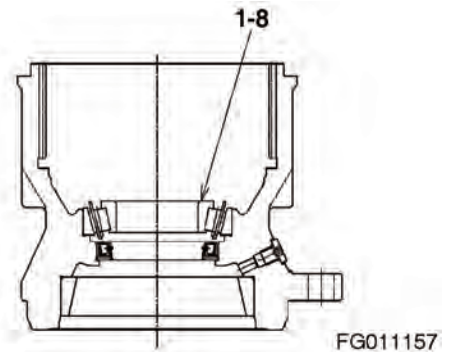

Figure 44
9. Break oil seal (1-7, Figure 44) to remove it.